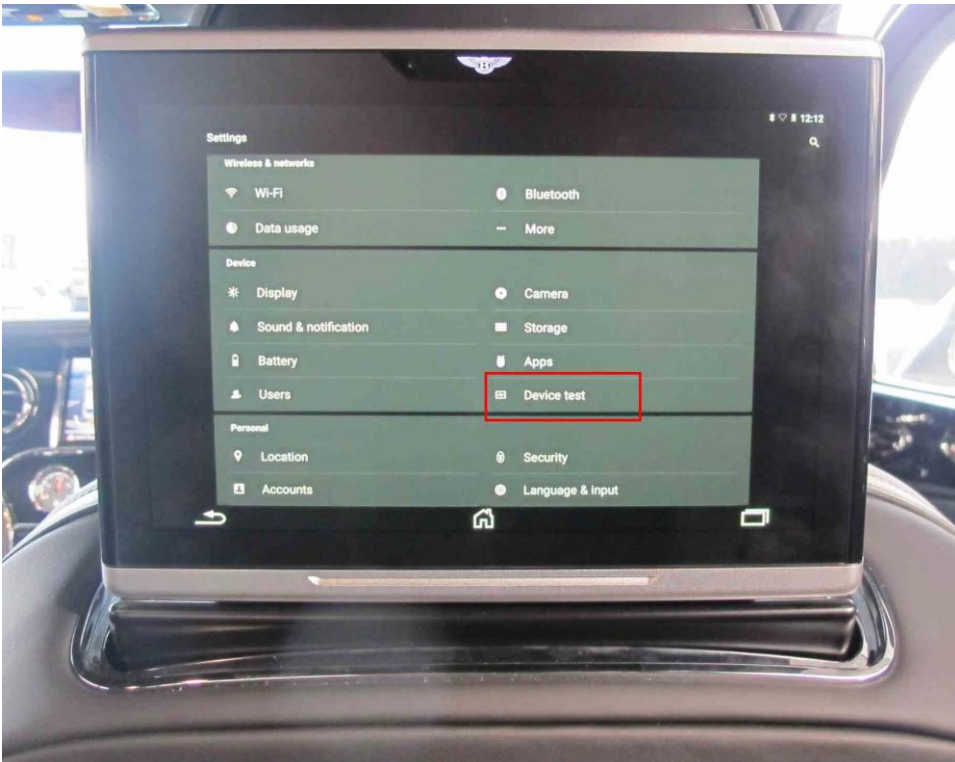

Figure 2.
- Select "Device test" –figure 2.